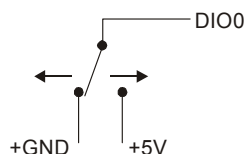

Figure 4. Schematic showing switch detection by digital channel DIO0
When you configure the digital bits for input, you can use the RedLab TC-AI digital I/O terminals to detect the state of a TTL-compatible device. Refer to the schematic shown in Figure 4. If you set the switch to the +5V input, DIO0 reads *TRUE* (1). If you move the switch to GND, DIO0 reads *FALSE* (0).